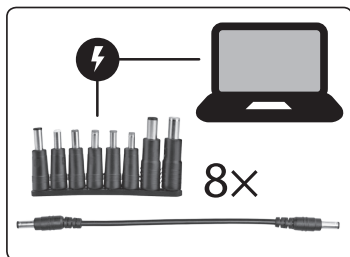
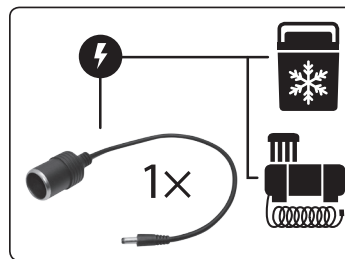

Fig. 5. Connecting cable with notebook plugs for powering notebooks
Fig. 6: 12 V adapter (socket) for connecting 12 V car appliances (e.g. car air compressor)
- Apart from the above-mentioned cables, the model Extol® Premium 8897321 also includes a connecting cable and 8 removable plugs enabling it to be connected to most notebooks (see fig. 5) 12 V socket (adapter) for connecting 12 V car appliances (fig. 6).